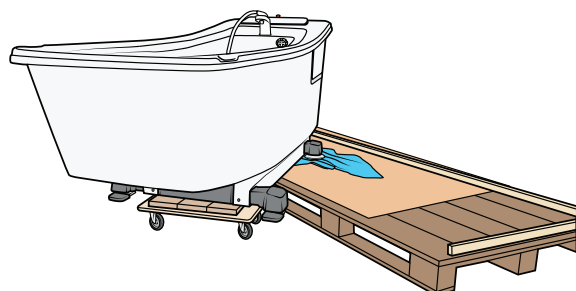

Figure 16
3. Position a mini trolley next to the pallet and slide the underside of the bathtub onto the mini trolley. If needed use the woodblocks to level the mini trolley with the pallet. See Figure 16.